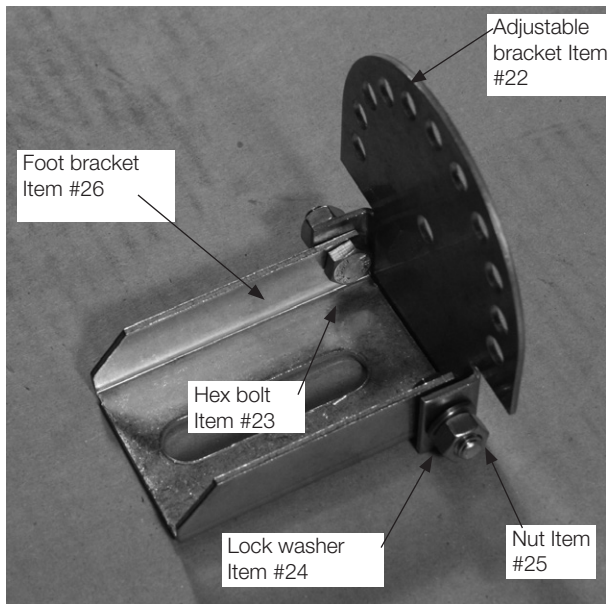

Figure 27. Assembled adjustable foot bracket
1. Assemble the adjustable bracket (Item 22) to the foot bracket (Item 26) using 5/16-18 X 5/8" hex-head bolts, 5/16" lock washers, and 5/16" nut (Items 23, 24, and 25). Refer to Figure 27.